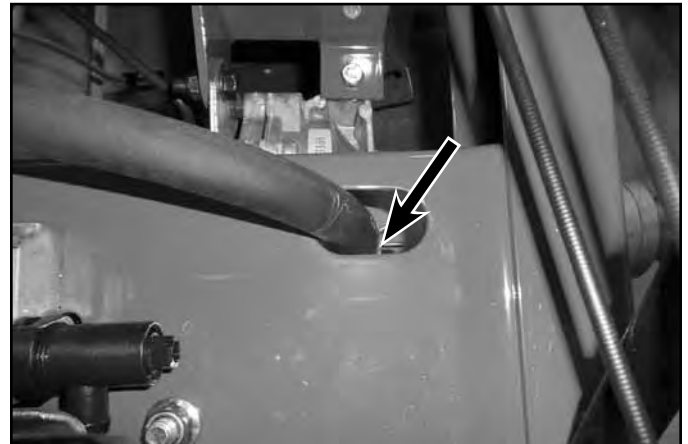

Fig. 081
5. If equipped, connect the hydro reservoir hoses at the hydro fitting (MX shown) (Fig. 081).